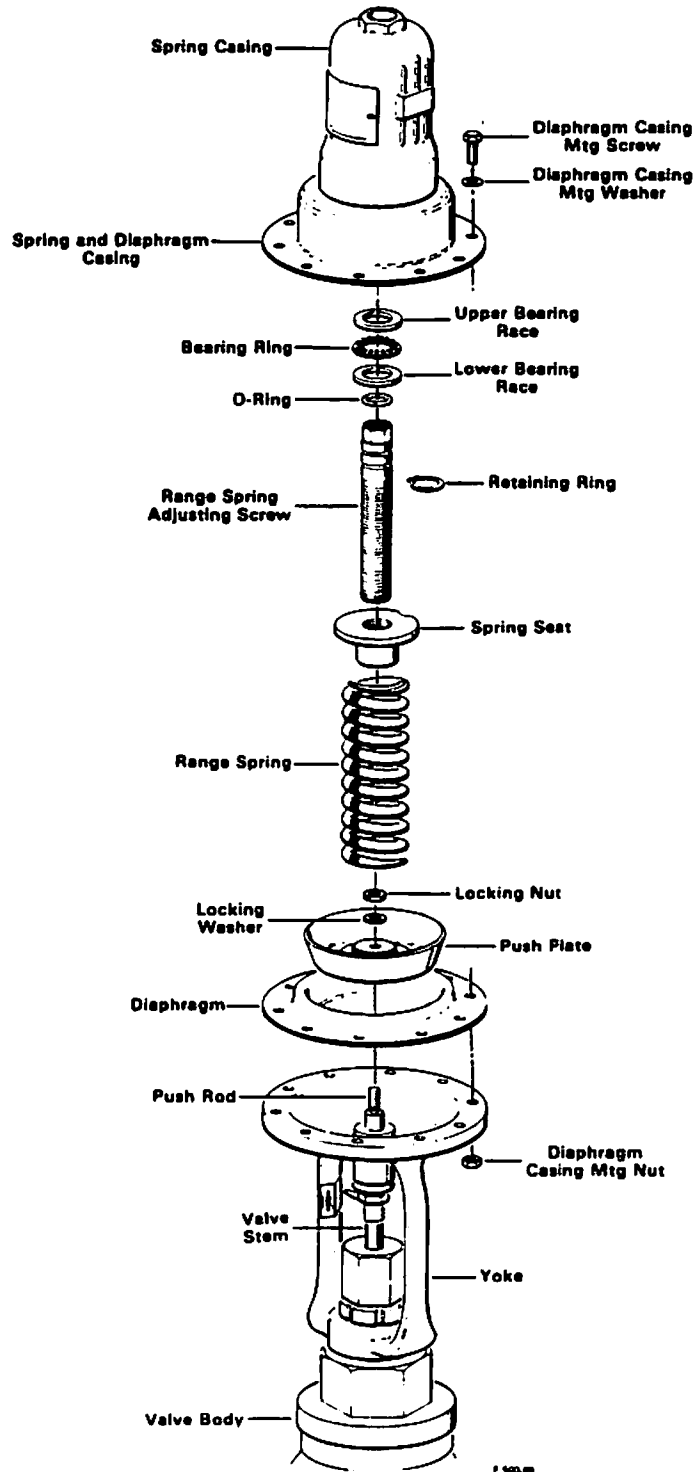

Figure 23. Exploded View of Air-to-Raise Actuator
4. Loosen and remove all diaphragm casing mounting screws, nuts and washers, Figure 23.
4. Unscrew spring casing with adjusting screw from diaphragm casing, Figure 23.